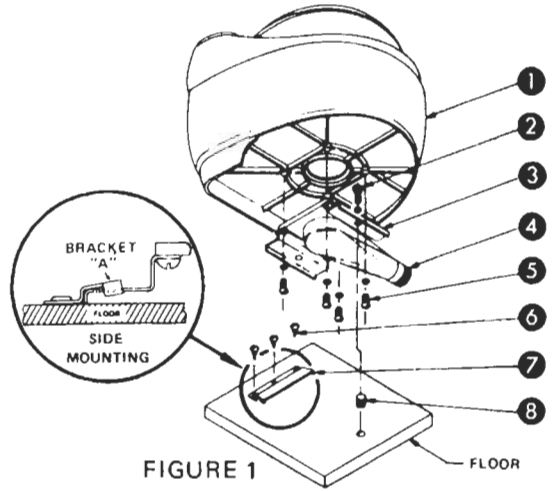

FIGURE 1
Place Monomatic® in position and wedge rear mounting bracket under bracket "A". Push toilet back until it is firmly wedged. Insert 1/4" x 20 bolt thru the front mounting bracket and tighten securely, as shown in Fig. 1.
UNIT WON'T SHUT OFF AUTOMATICALLY	Remove cartridge cover only per (K) Fig. 1 Do not disconnect. Motor wire has been caught in timer mechanism. Correct and re-install. JAMMED OR CLOGGED FILTER—Perform (B). Sanitize unit per (I). Remove cartridge per (K). See (B), (C), or (D) for possible cause. Clean with stiff bristle brush and re-install per (L) or replace per (M) if needed.
UNIT CONTINUALLY BLOWS FUSES	DEFECTIVE TIMER SWITCH—Remove cartridge cover only per (K) Fig. 1. Check visually. Replace per (M) if needed.